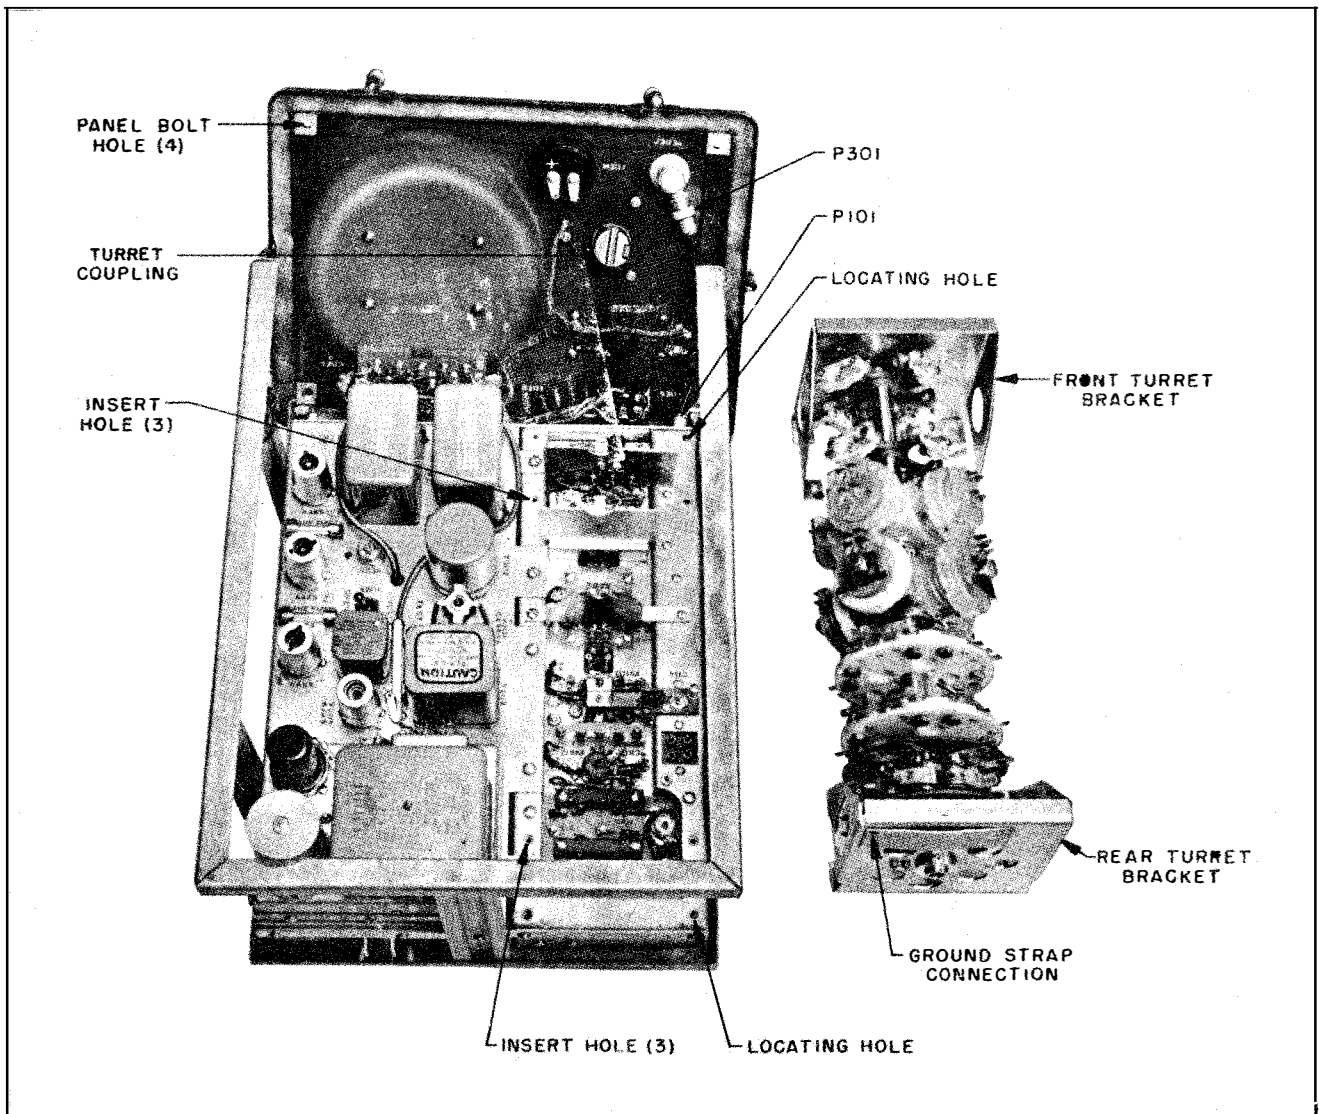

Figure 7-9.—Removal of Coil Turret.
To drop the control panel as shown in figure 7-9, it is only necessary to remove P301 or P101, remove the four corner bolts securing the panel to the longitudinal members of the main frame, and ease the panel forward to disengage the coil turret from the CHANNEL SELECTOR drive. Be careful not to misplace the bolts. All control panel components are now readily accessible.
Removal of the coil turret assembly is necessary to gain access to receiver mixer tube V106 and to the undersides of sockets XV101—XV106 inclusive. It is accomplished as follows (see figure 7-9.):
(1) After removing the turret from the Transmitter-Receiver as described in paragraph *b.* above, pull the front and rear turret brackets off the shaft (see figure 7-9).
(2) Drive out the taper pins securing to the shaft all individual assemblies up to and including the one to be replaced. Always start from the end of the shaft nearest to the damaged component.